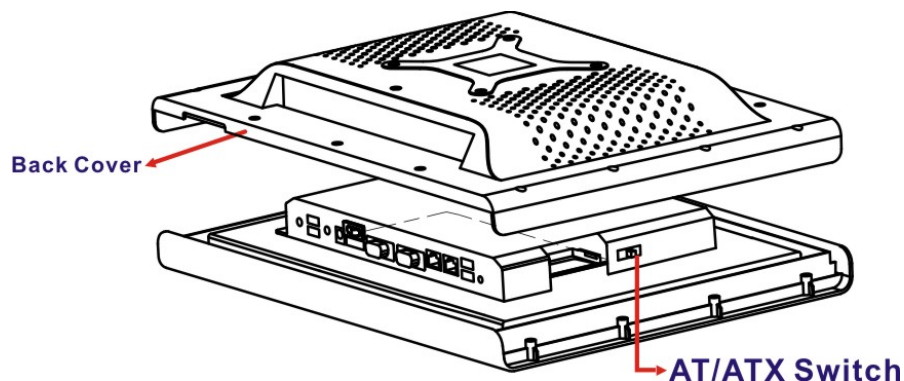

Figure 4-6: AT/ATX Switch Location
AT and ATX power modes can both be used on the AFL-xxA-N270 series. The selection is made through an AT/ATX switch on the aluminum chassis inside the plastic back cover (Figure 4-6). To select AT mode or ATX mode, follow the steps below.
Step 2: Locate the AT/ATX switch on the aluminum chassis (**Figure 4-6**).